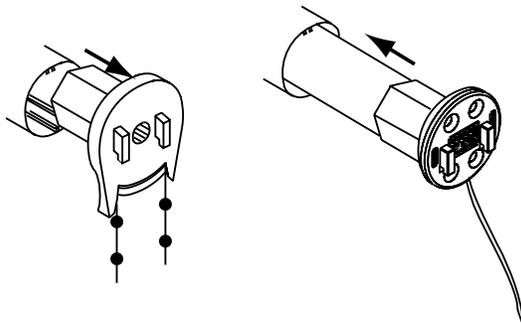

Figure 2
- ① Retract shade. If necessary, remove fascia or headbox cover, then remove shade from brackets or endcaps by reversing steps in "Shade Installation" section below.
- ② Remove bead chain clutch from roller (see Fig. 2).
- ③ Slide battery powered motor into roller (see Fig. 2).
- ④ Continue to "Battery Mounting" and "Shade Installation" sections.